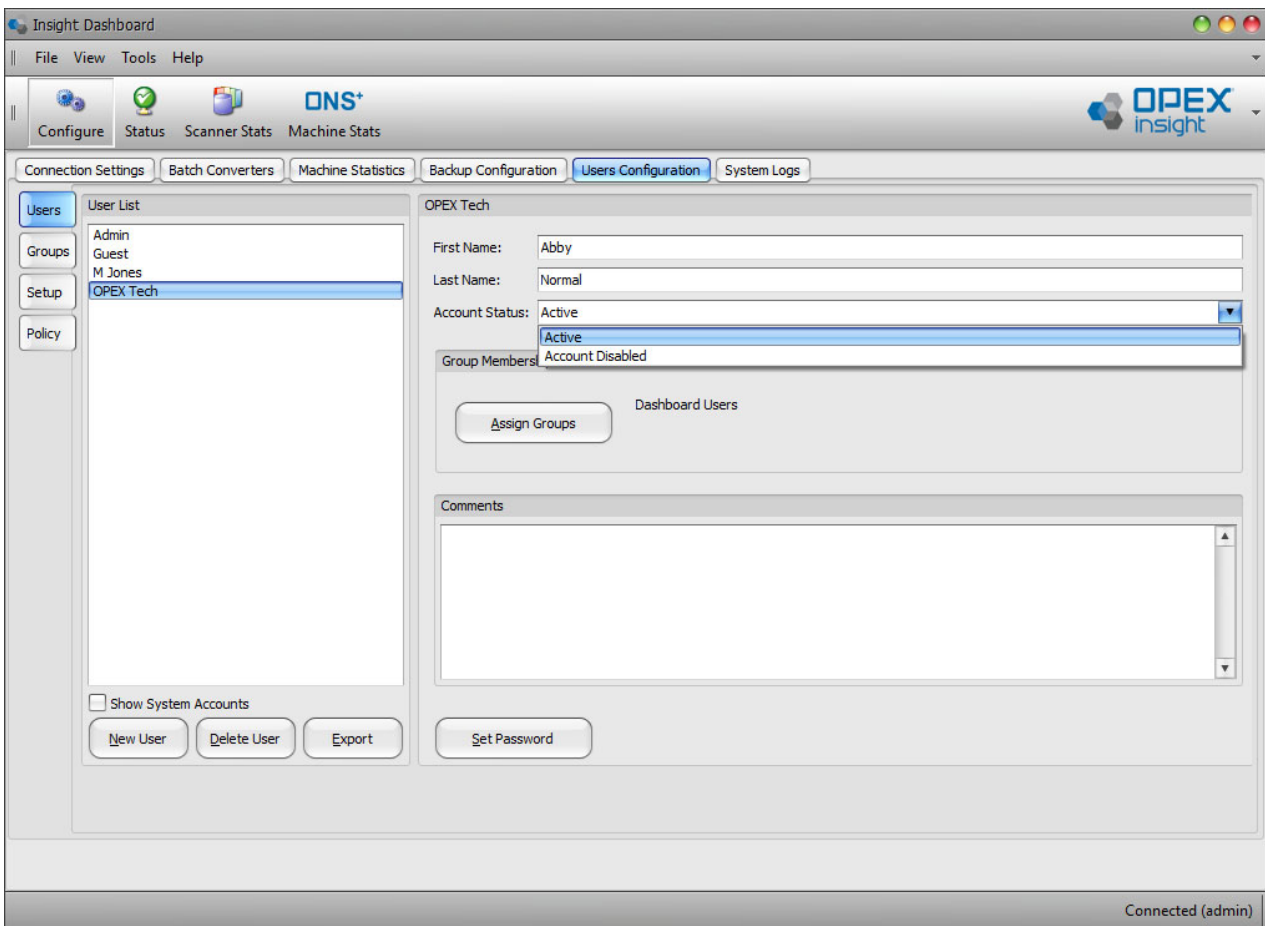

Figure 2-7: Create User Detail
7. If desired, enter a full first name and last name for the user in the **First Name** and **Last Name** fields (Figure 2-7).